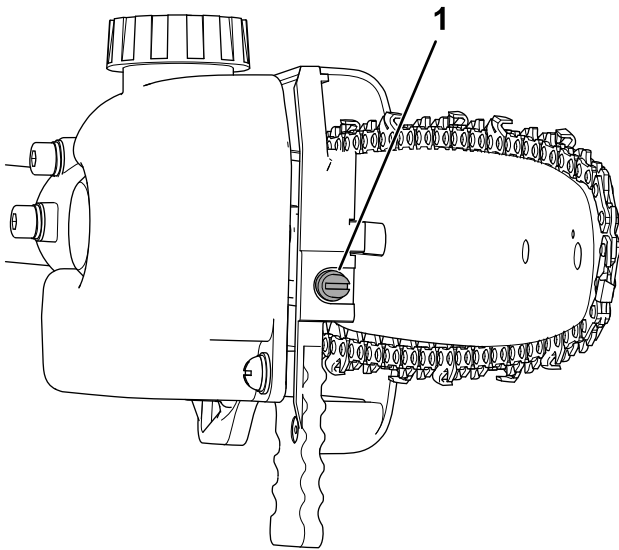

Figure 14
5. Adjust the chain tension using the chain tensioning screw (Figure 14), and then secure the side cover to the pole saw by turning the bar cover screw clockwise before checking the tension (Figure 13).
3. Loosen the chain by turning the chain-tightening screw counterclockwise (Figure 14).